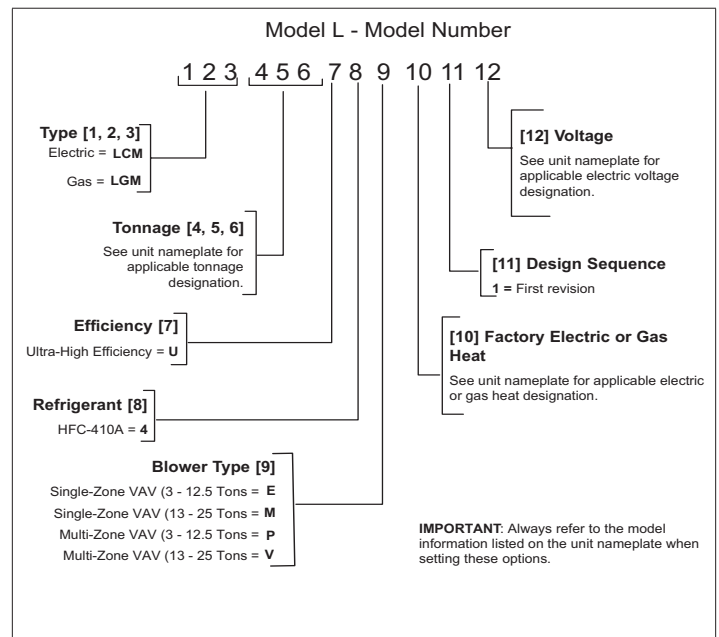

Figure 6. Model Number
- Model Number (see “Figure 6. Model Number”) and serial number. Model , serial and catalog numbers are located on the RTU nameplate.